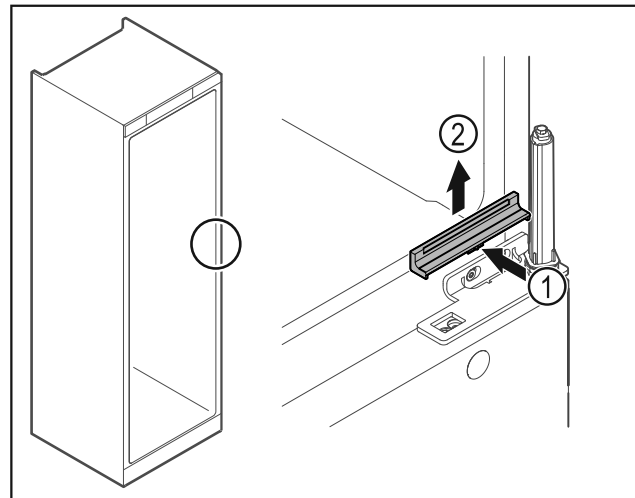

Fig. 25
- ▶ Gently press the middle of the cover Fig. 25 (1) and lift it off Fig. 25 (2).